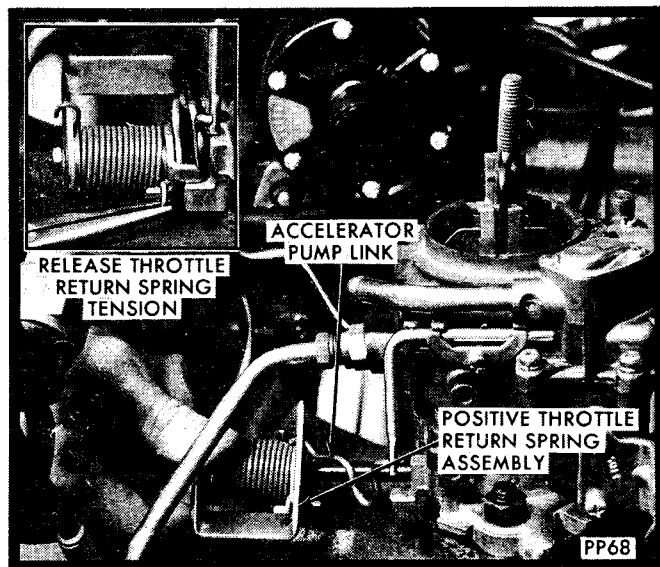

Fig. 1—Removing or Installing Positive Return Spring Assembly
- (1) Remove air cleaner assembly and air cleaner gasket.
- (2) Remove bowl vent hose.
- (3) Disconnect choke assembly and air cleaner gasket.
- (4) Remove fast idle cam retaining clip, cam and link.
- (5) Remove vacuum kick diaphragm, link and hose.
- (6) Remove dash pot if equipped.
- (7) Remove positive throttle return spring, pump rocker arm and linkage assembly (Fig. 1).